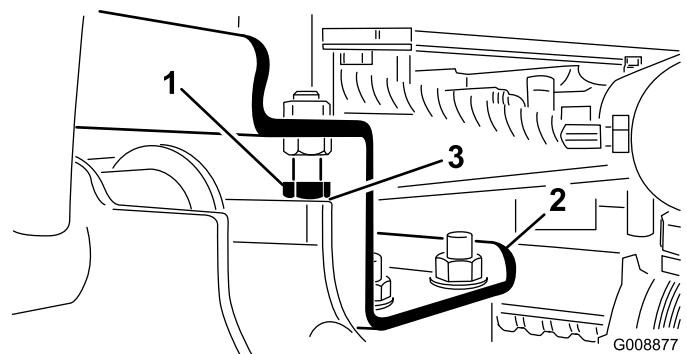

Figure 26
- A. Back off the stop bolts and adjust the cylinder to attain the clearance (Figure 26).
2. Check to ensure that the clearance between each lift arm and stop bolt is 0.005 to 0.040 inches (0.13 to 1.02 mm) (Figure 26).